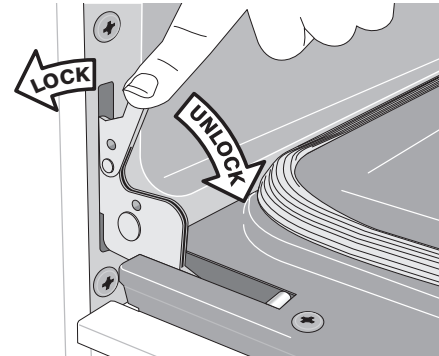

Figure 16: Door hinge Locks
2. Pull the door hinge locks on both left and right door hinges down from the oven frame completely towards the oven door (See Figure 16).